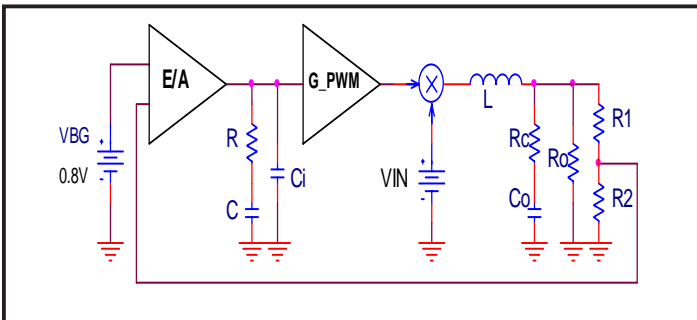

Fig. 4. SC2608B small signal model.
The control model of SC2608B is depicted in Fig. 4. This model can also be used to generate loop gain Bode plots. The bandgap reference is 0.8V and trimmed to +/-1% accuracy. The desired output voltage can be achieved by setting the resistive divider network, R1 and R2. The error amplifier is transconductance type with fixed gain of:
(6) The final step is to generate the Bode plot by using the simulation model in Fig. 4 or using the equations provided here with Mathcad. The phase margin can then be checked using the Bode plot.